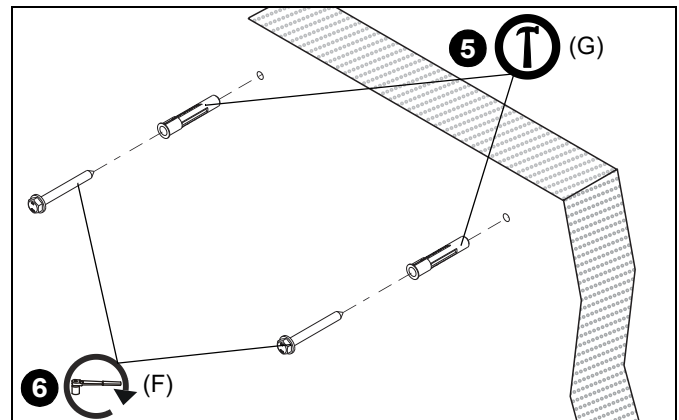

Figure 3
5. Install one Fischer UX10x60R anchor (G) into each pilot hole using a hammer, making sure that the anchor is flush with the wall. (See Figure 3)
6. Install one 5/16" x 3-1/2" lag bolt (F) into each anchor in wall.